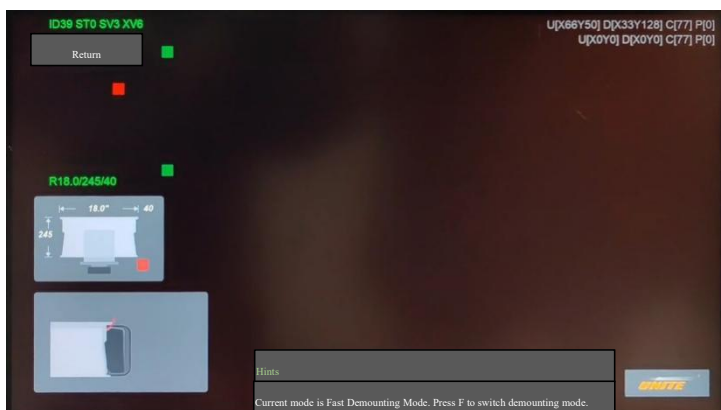

Figure 18
According to (F), it is divided into fast tyre change method and standard tyre change method. The difference of two tyre change methods is just about the tyre changing time.(Figure 18)